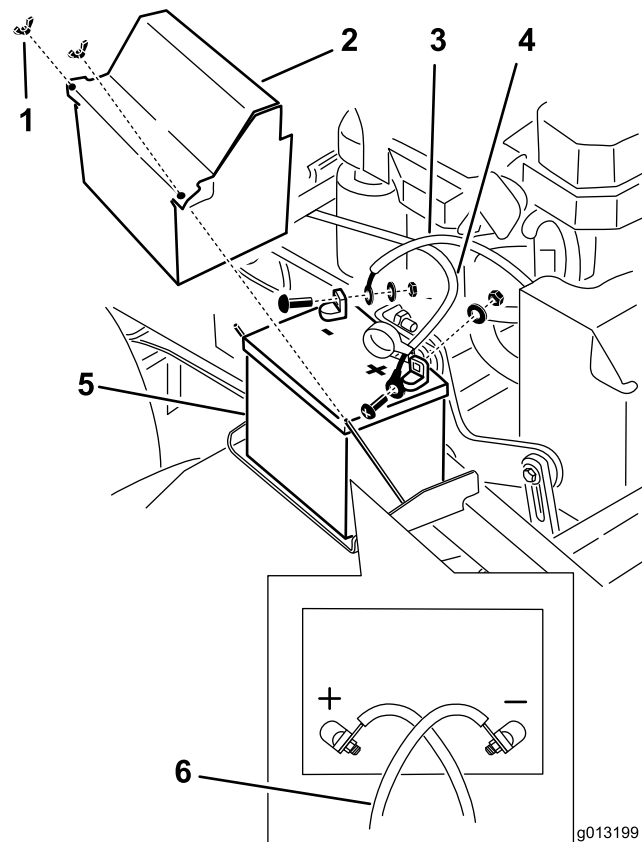

Figure 50
3. Disconnect the negative battery cable from the negative (-) battery terminal (Figure 50).
4. Slide the red terminal boot off the positive (red) battery terminal. Then remove the positive (red) battery cable (Figure 50).
5. Remove the battery hold down plate (Figure 50) and remove the battery.
1. Place the battery onto the machine (Figure 50).
3. First, install the positive (red) battery cable to positive (+) battery terminal with a nut, washer and bolt (Figure 50). Slide the rubber cover over the post.
4. Then install the negative battery cable and ground wire to the negative (-) battery terminal with a nut, washer and bolt (Figure 50).
Note: The battery cables will crossover each other when they are correctly installed (Figure 50).